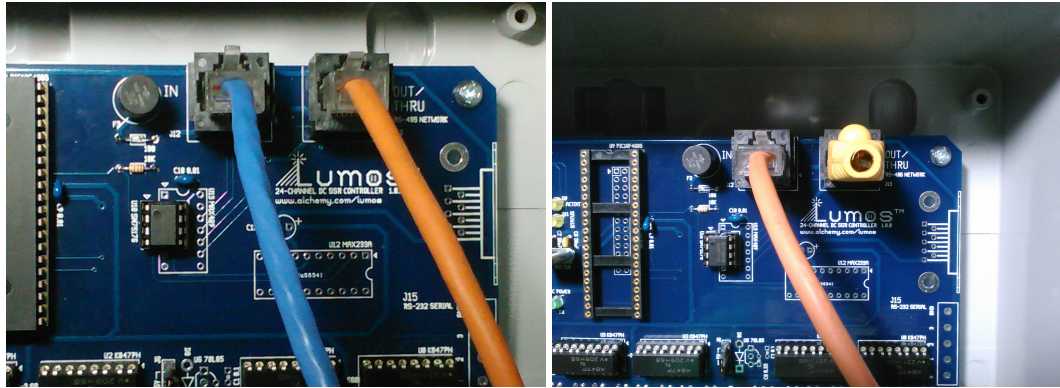

Figure 4.3: Connected Network Cables (terminated unit on right)
8. Refer to Figure 4.3 to see how the serial network cables look when connected. The unit on the left has two cables attached. The blue cable is the incoming data line from the PC's RS-485 converter. The orange cable is going out from this Lumos controller to the next one in the chain, which is shown on the right of Figure 4.3. Note that on the second unit, the orange cable from the first unit is plugged in to the "IN" jack, and a terminator plug is placed in the "OUT" jack, ending the chain at that point.